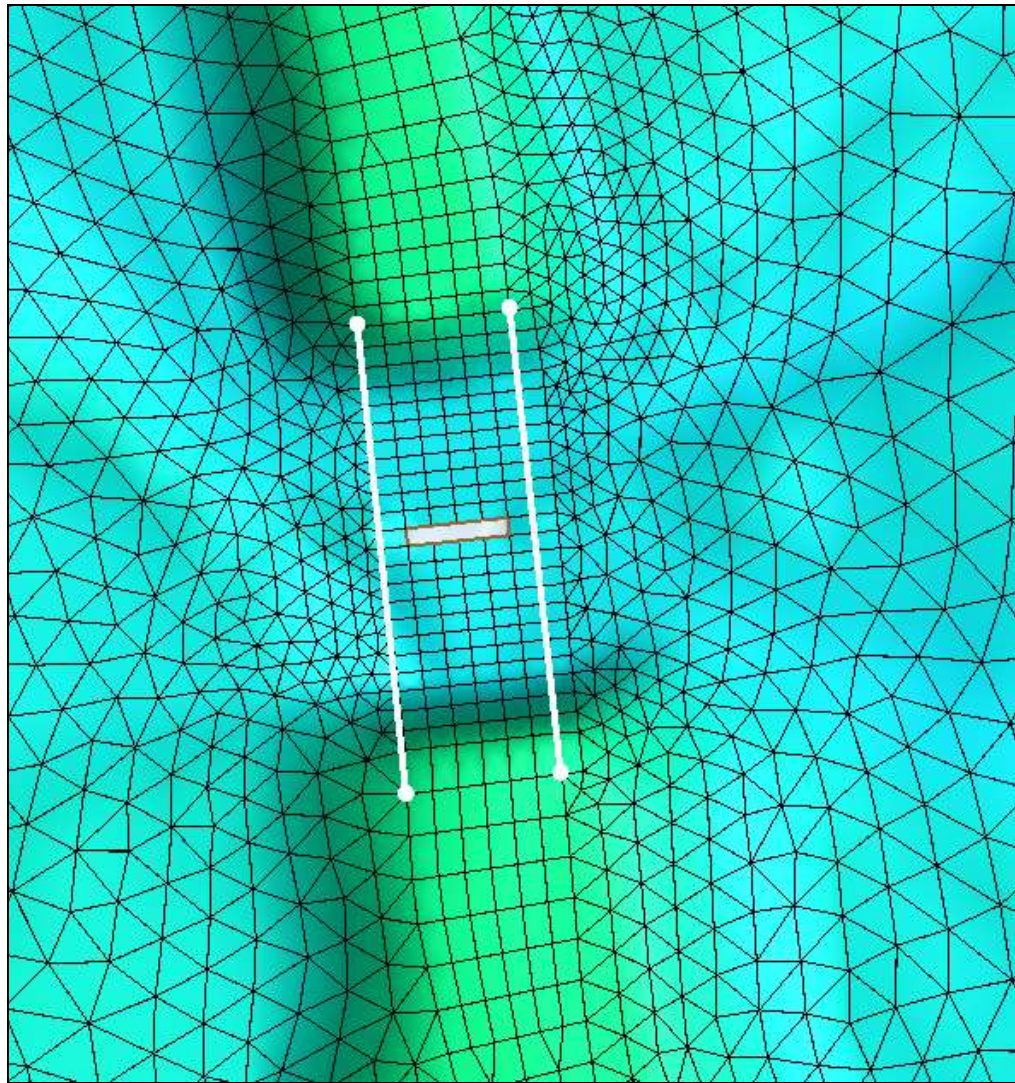

Figure 3 Pressure flow arc locations
6. Use the **Create Feature Arc**  tool to create one arc on each side of the bridge to define the upstream and downstream faces of the bridge deck. The arcs should look similar to Figure 3.